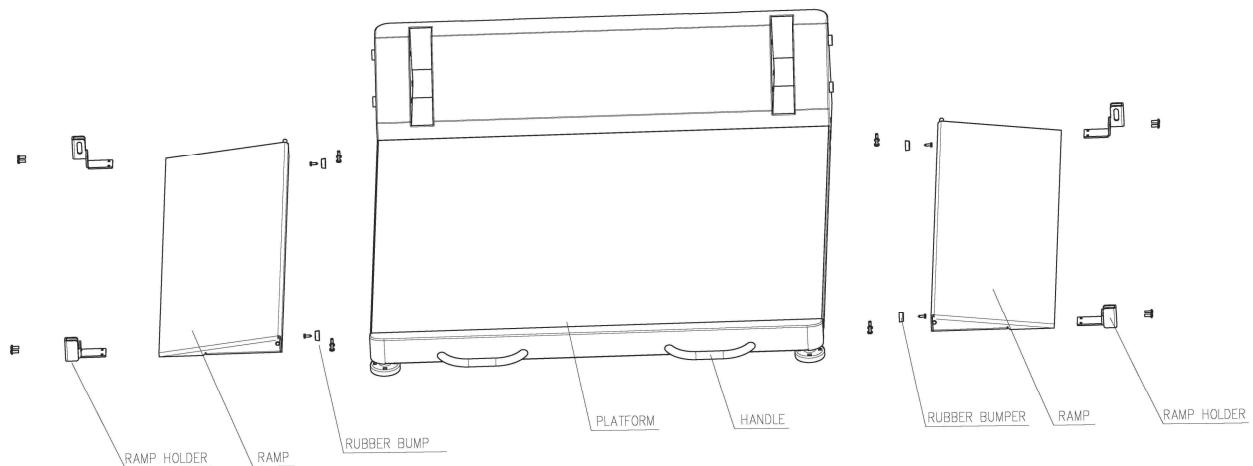

Figure 8
4. Remove the screws attaching the 2 rubber bumpers, located on the side of the platform (see Figure 8).
5. Remove the bumpers, and re-install them on the opposite side of the platform. Use the appropriate mounting holes (see Figure 8).
1. From its upright folded position, gently lower the scale onto its feet. Use the scale handles, located on the front of the platform (see Figure 8).